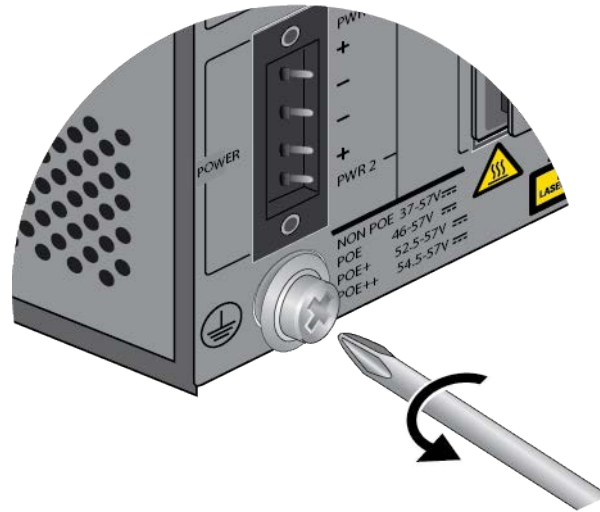

Figure 36. Loosening the Grounding Screw
7. Remove the grounding screw from the switch with a #2 Phillips-head screwdriver. Refer to Figure 36.